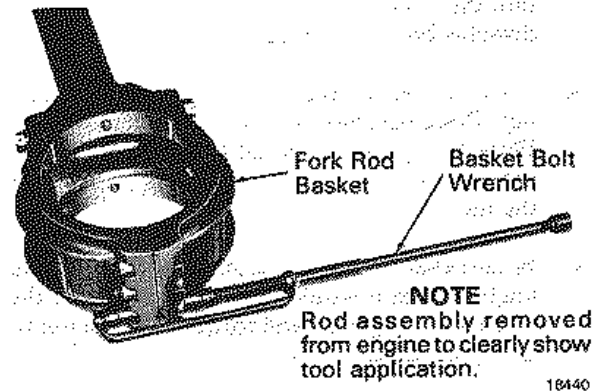

Fig. 5-34 - Basket Bolt Wrench Application
31. Using the spring-loaded basket bolt wrench, Fig. 5-34, torque the lower basket bolts to specified value.